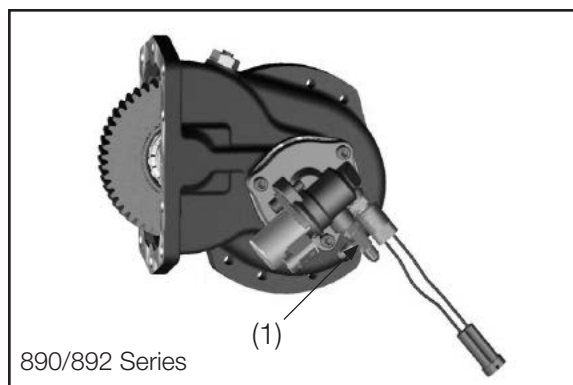

Figure 13
11. Securely attach the high pressure line to the PTO valve fitting (1), torque to 11-12 lb-ft [15-16 N-m] (**Fig. 13, 13a, & 13b**).